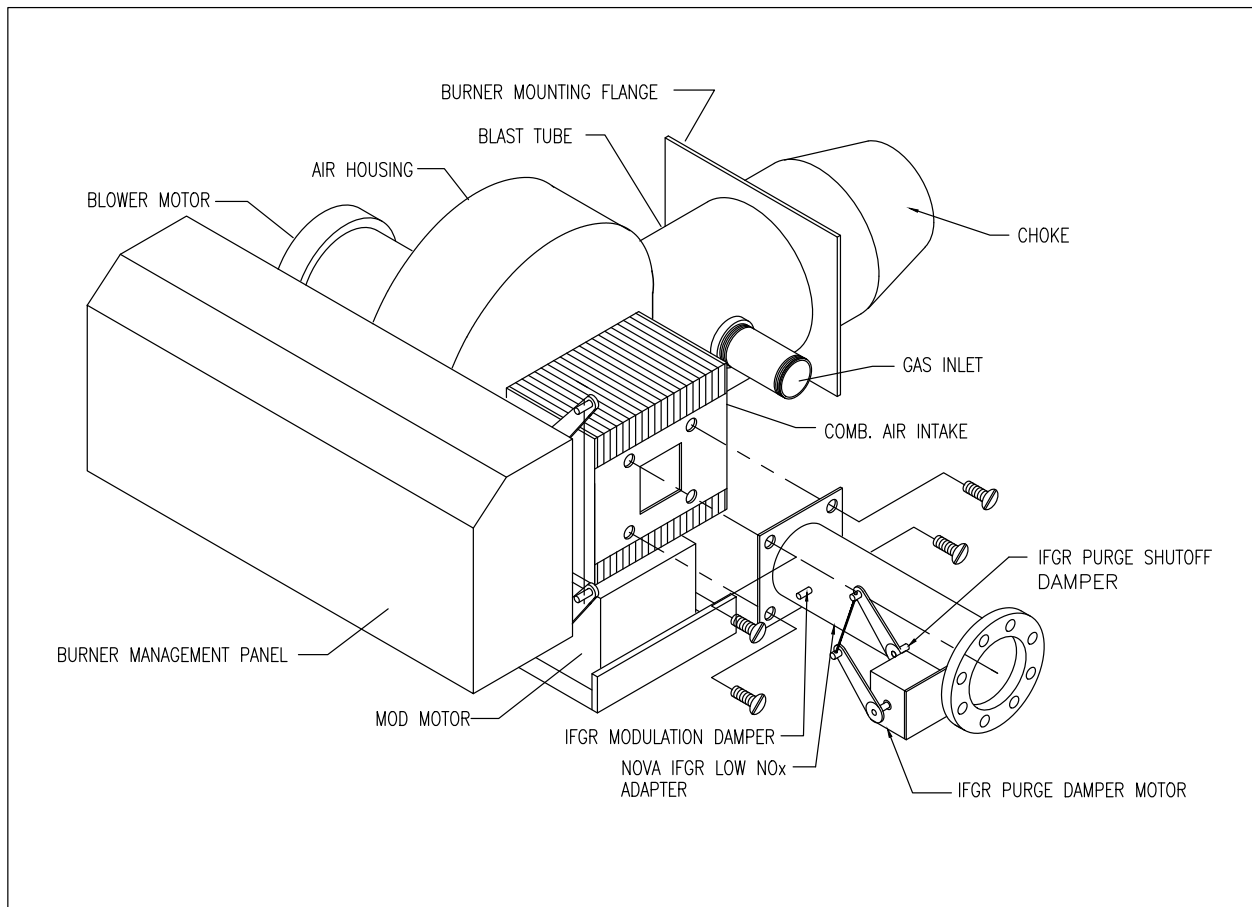

Figure 1: Nova IFGR Combustion System adapter arrangement.
The NOVA IFGR System consists of three basic components (as depicted in Figure 1):
Please note that the arrangement shown in Figure 1 is typical of all LNIC(R), LNIAC(R), LNIJ(R), and LNICM(R) burners. The Figure does not show the proprietary Varicam® metering system which can be purchased as an option for more precise control of fuel, air and IFGR ratios.